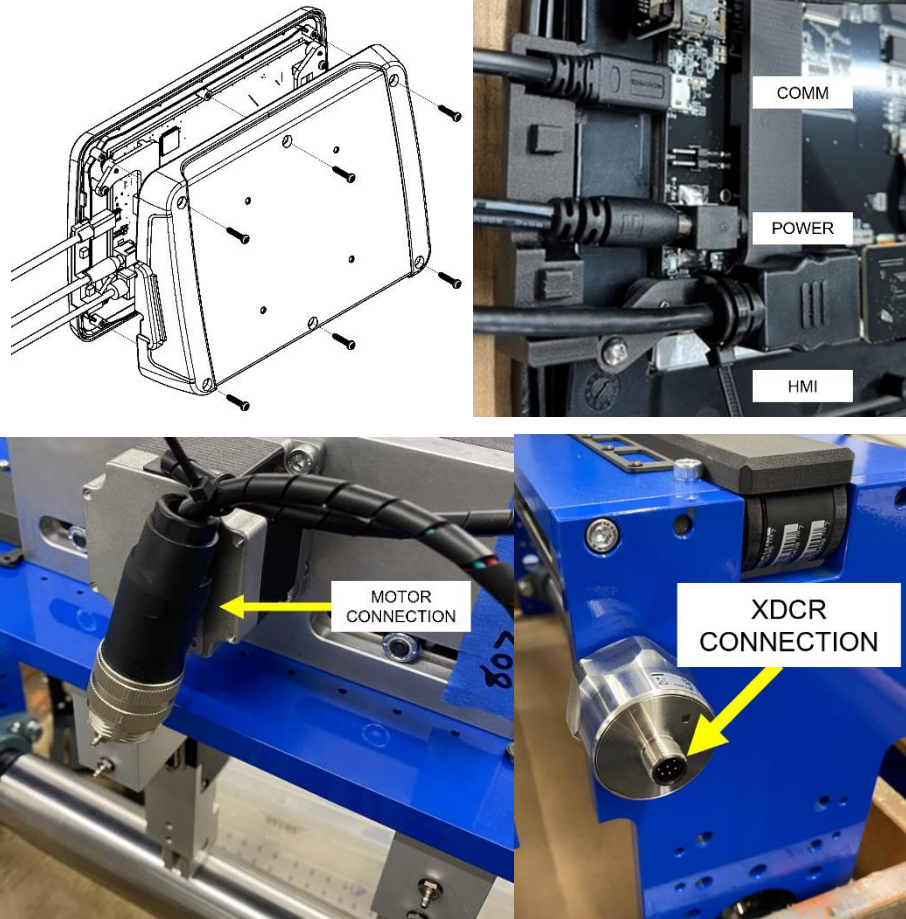

Figure 15 – Carriage Connections
- 5) Route the 3 cables (Power, HMI, and COMM) to the HMI location. Remove six (6) screws securing HMI cover, open the HMI and connect the cables (see figure 15 below). Install cover using six (6) screws and mount HMI in accordance with section 4.1.4. NOTE – It may be easier to install the cables prior to finalizing the HMI mounting location.